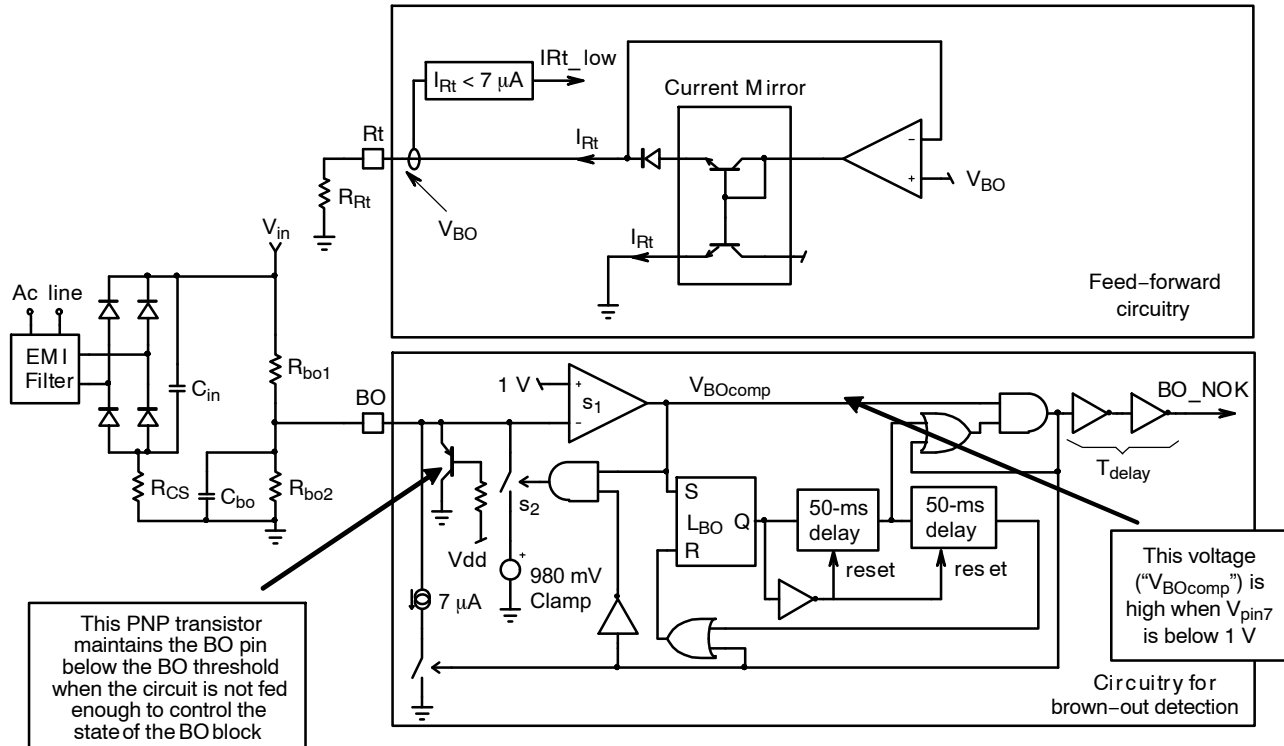

Figure 19. Brown-out Block
In nominal operation, the voltage applied to pin7 must be higher than the 1 V internal voltage reference. In this case, the output of the comparator BO_Comp (V_{BOcomp}) is low (see Figure 19).
can be detected. This is the role of the second 50-ms timer of Figure 19:
- The OPAMP output is separated from pin7 (Figure 19) to prevent the operational amplifier from maintaining 1 V on pin7 (as done by the switches s_1 and s_2 in the representation of Figure 19). Instead, V_{pin2} drops to the value that is externally forced (by V_{in} , R_{bo1} , R_{bo2} and C_{bo2} in Figure 19). As a consequence, the OPAMP output remains high and the “BO_NOK” signal stays high until the line recovers.
As shown by Figure 19, The BO circuit also generates an internal current proportional to the input voltage average value (I_{Rt}). The pin7 voltage is buffered and made available on pin 3. Placing a resistor between pin 3 and ground, enables to adjust a current proportional to the average input voltage. This current (I_{Rt}) is internally copied and squared to form the charge current for the timing capacitor of each phase. Since this current is proportional to the square of the line magnitude, the conduction time is made inversely proportional to the line magnitude. This feed-forward feature makes the transfer function and the power delivery independent of the ac line level. Only the regulation output (V_{REGUL}) controls the power amount. If the I_{Rt} current is too low (below 7 μA), the controller goes in OFF mode to avoid damaging the MOSFETs with too long conduction time.